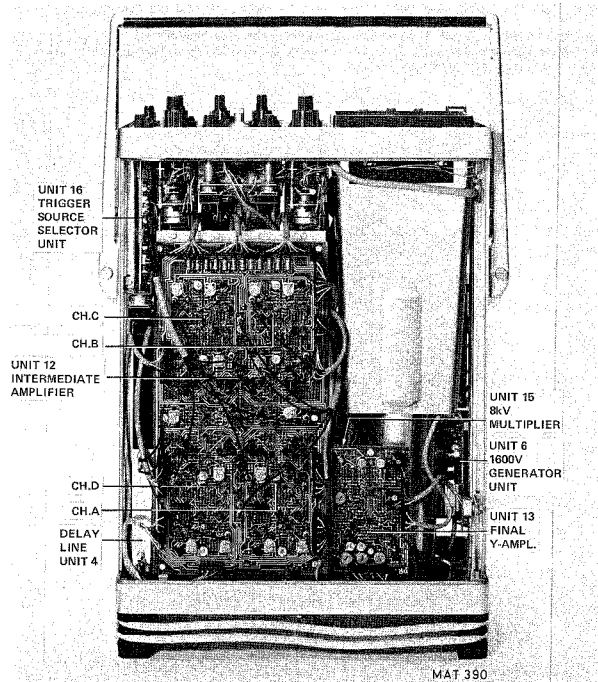

Fig. 3.4. Unit location, top view
This section provides the dismantling procedures required for the removal of components during repair and routine maintenance operations. All circuit boards removed from the oscilloscope should be adequately protected against damage, and all normal precautions regarding the use of tools must be observed. During dismantling procedures, a careful note of all leads disconnected must be made so that they may be reconnected to their correct terminals during assembly. For unit-location refer to Fig. 3.4 and 3.5.
3.4.8. Removing the intermediate amplifier circuit board (fig. 3.4)
3.4.9. Removing the final Y amplifier circuit board (fig. 3.4)
3.4.10. Removing the trigger source selector circuit board (fig. 3.4)
3.4.11. Removing the delay line (fig. 3.4)
3.4.13. Removing the 8 kV multiplier (fig. 3.4)